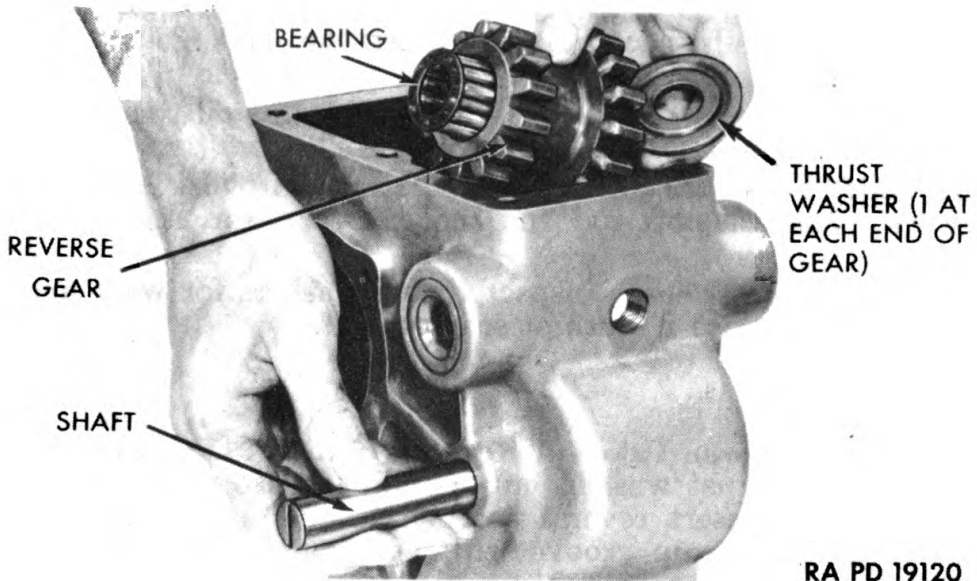

Figure 201 — Removing Reverse Gear and Shaft
h. Remove Power Take-off Reverse Gear. Remove cotter pin from reverse shaft. Push shaft out of housing, and remove reverse gear, bearing, and two thrust washers from case (fig. 201).